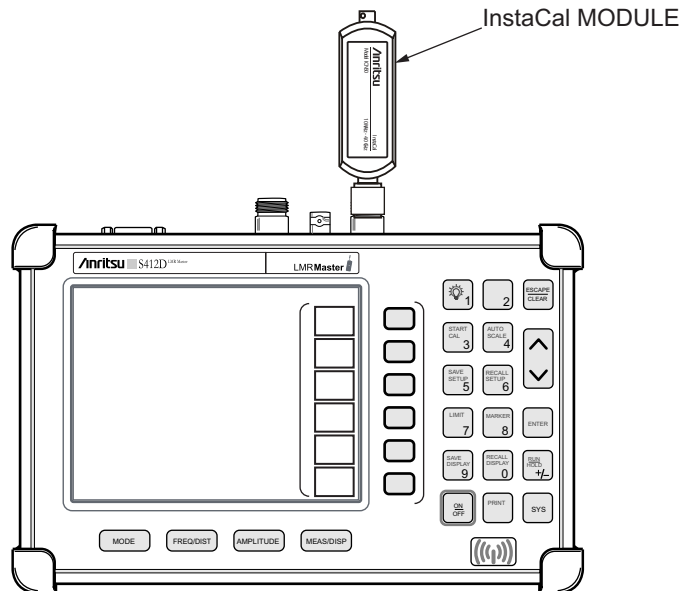

Figure 3-3. InstaCal Module Calibration
4. Connect the InstaCal module to the RF Out port (Figure 3-3).
3. Connect the InstaCal module to the RF Out port (Figure 3-3). The LMR Master is automatically set to the maximum frequency range.